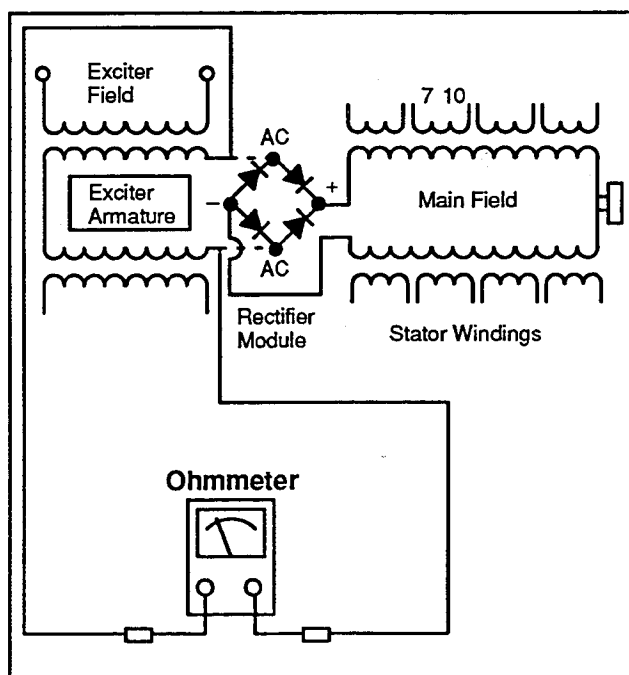

Figure 8-7. Exciter Armature Ohmmeter Test
2. With an ohmmeter on the R x 1000 scale, check resistance across exciter armature leads. See Figure 8-7. The armature resistance is found in Section 1. Specifications. No continuity indicates an open armature winding. If the resistance test proves inconclusive, perform a megohmmeter test on the exciter armature as described in the next step.